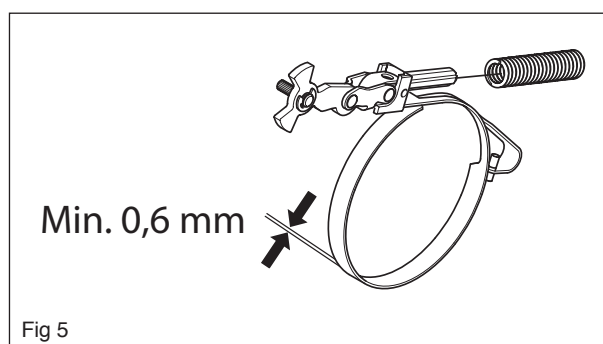
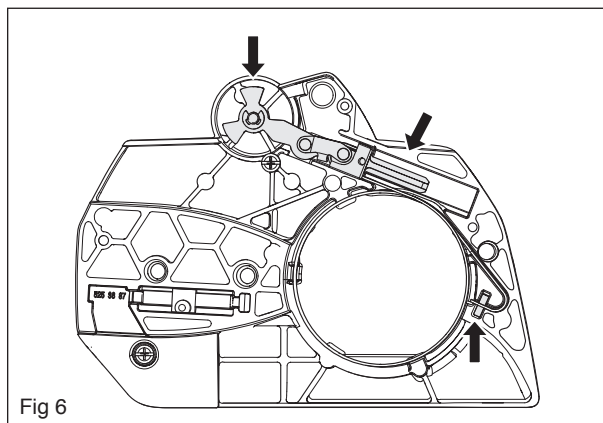

Fig 5
Fig 6
- Measure the thickness of the chain brake band. It must not be less than 0.6 mm in any place. See figure 5.
Screw the knee joint and the brake band together (see figure 5) with a tightening torque of 1-1.5 Nm. Place the knee joint with the fitted chain brake band in the opening in the clutch cover. The space for the spring in the cover must be lubricated with grease. See figure. 6.